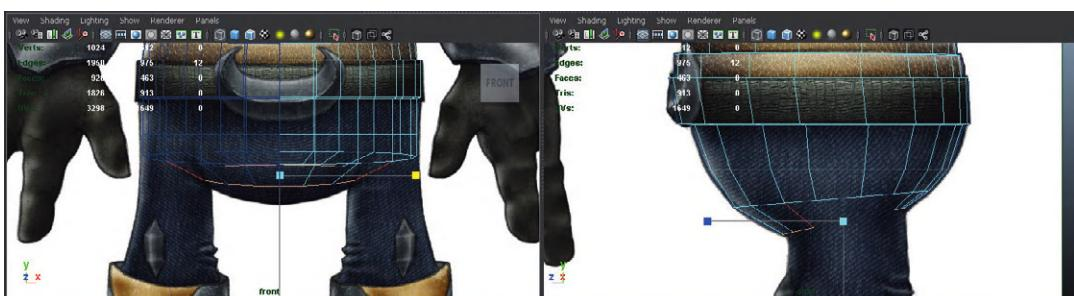

FIG. 4.63 Getting started on the crotch.
Step 81: Extrude both the front three edges and the back three edges. Be sure to extrude them down and inward toward the center of the bottom of the crotch (Fig. 4.63).